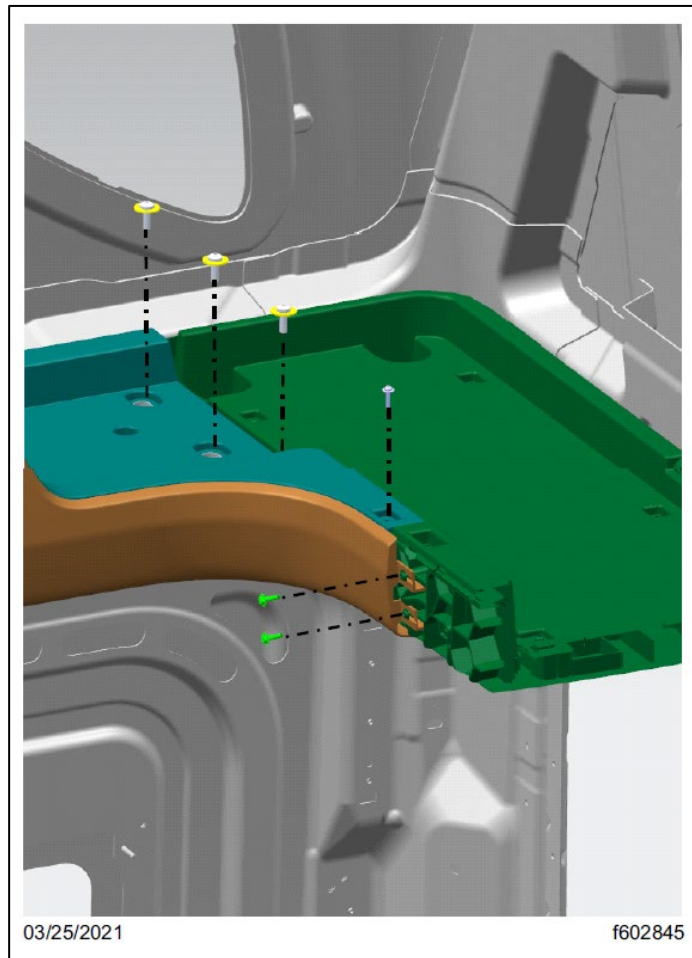

Fig. 41, Fasteners That Attach the Rear-Right Upper Cabinet to the Upper-Rear Shelf
- 6.1. Remove the six fasteners that attach the upper-rear shelf to the rear-right upper cabinet. See Fig. 41.